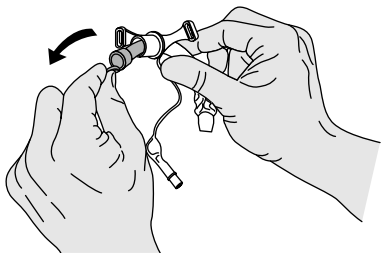

Fig. 1
5. Remove inner cannula. (**Fig. 1**)